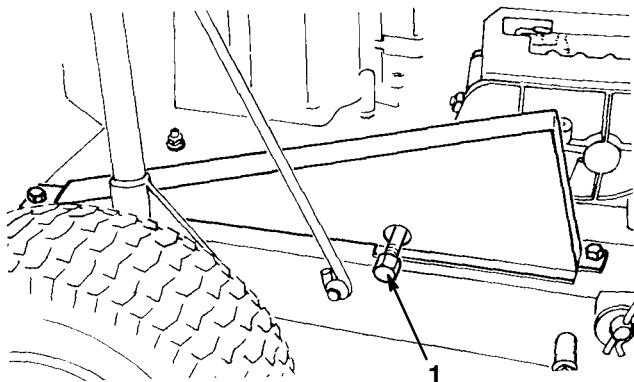

Figure 14
4. Place a drain pan below drain plug (Fig. 14). Remove drain cap. Allow all oil to flow into drain pan.